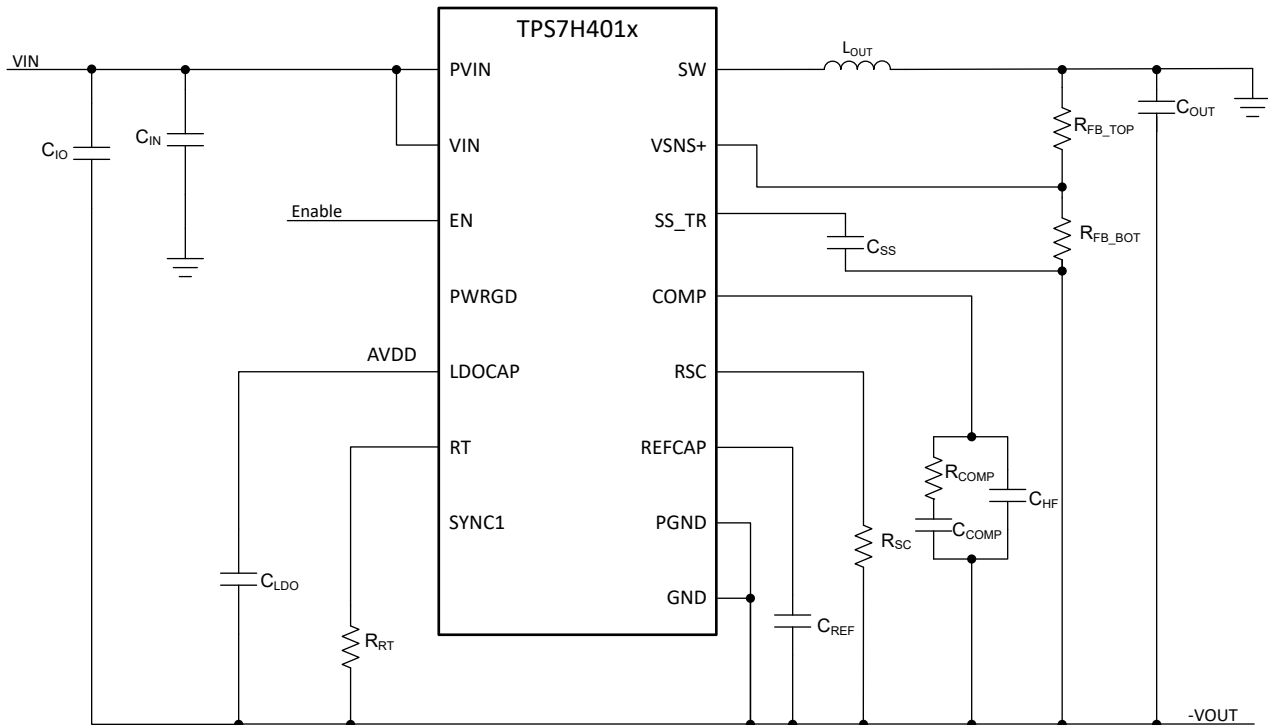

Figure 10-4. Simplified Schematic of Inverting Buck-Boost
The TPS7H401x can be configured as an inverting buck-boost in order to create a negative output voltage as shown in Figure 10-4.
- C_{IO} in the Figure 10-4 is the standard input capacitor that would be utilized in a buck converter. C_{IN} is an input capacitor with respect to system ground which provides a low impedance path at the regulator input.